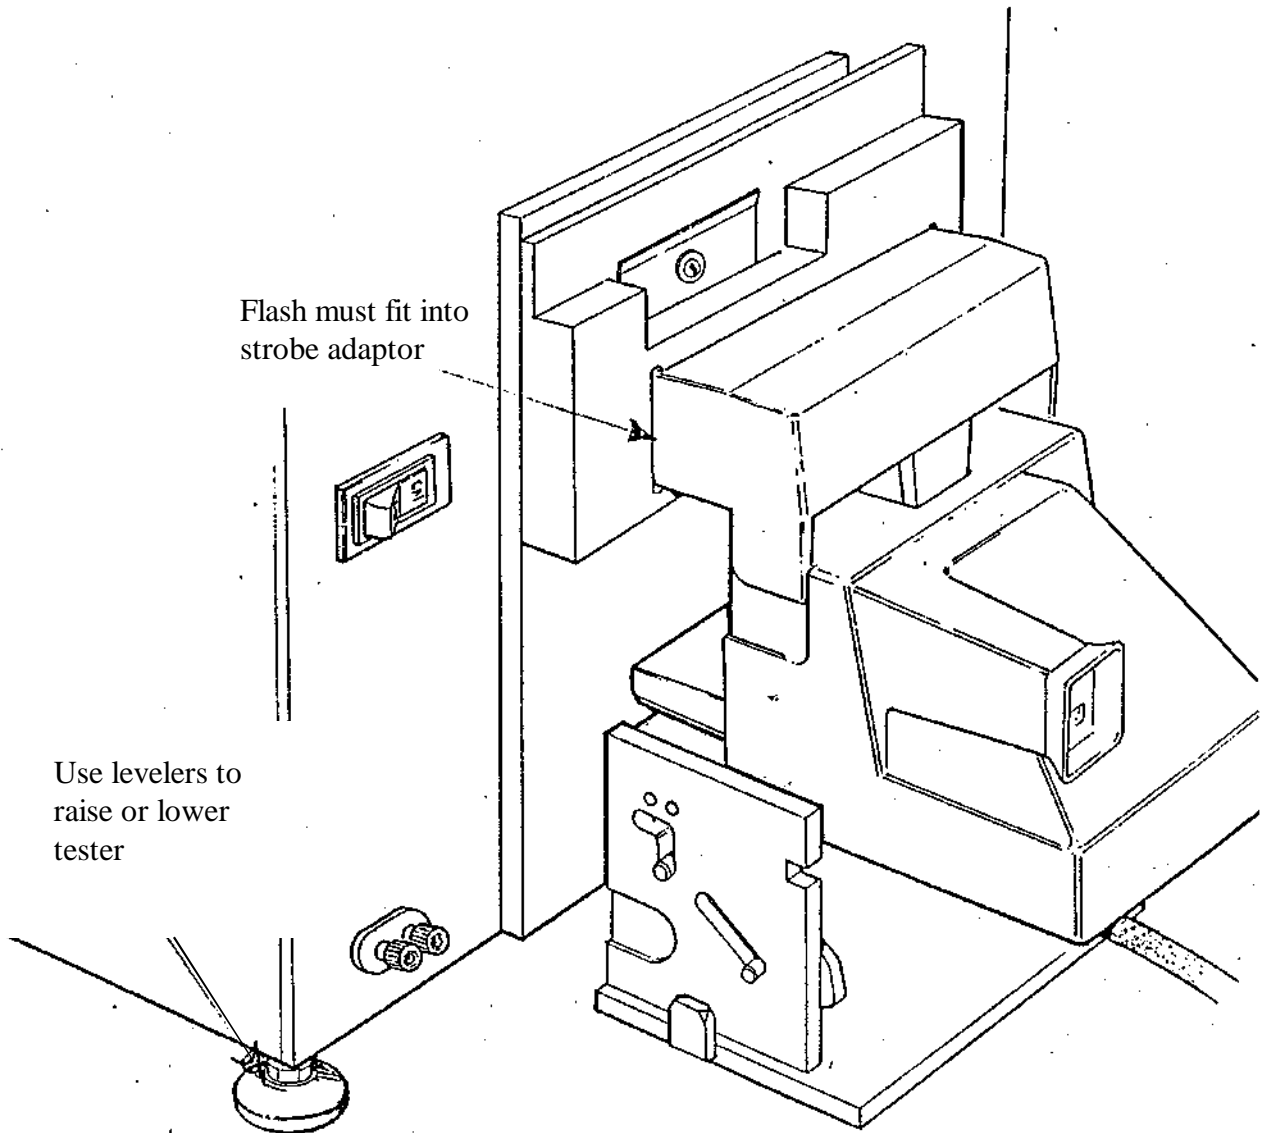

Fig. 3 Aligning Camera on Horn with Tester window
4. Set the horn with the mounted camera against the tester. Using the leveling legs, raise or lower the tester so that the electronic flash is aligned with and fits into the adaptor window (Figure 3).